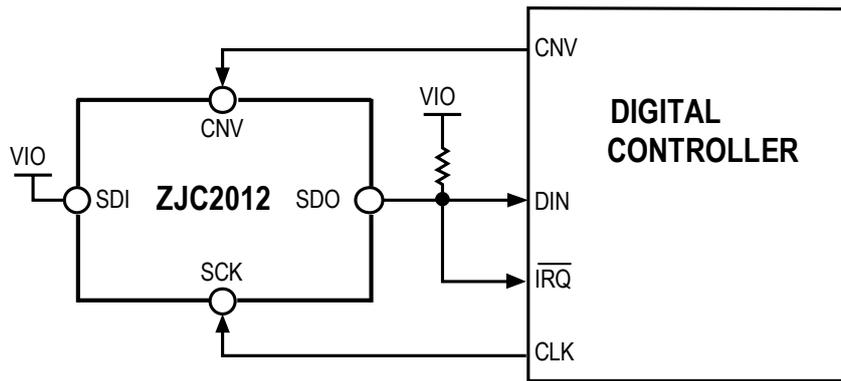
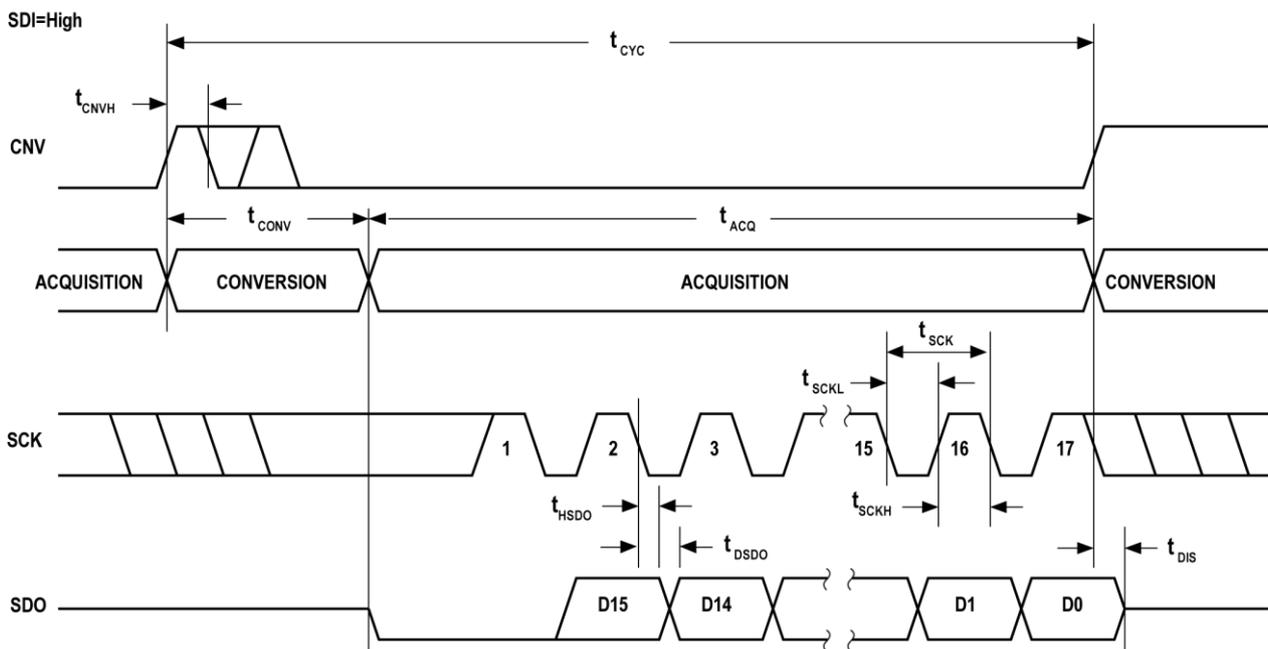
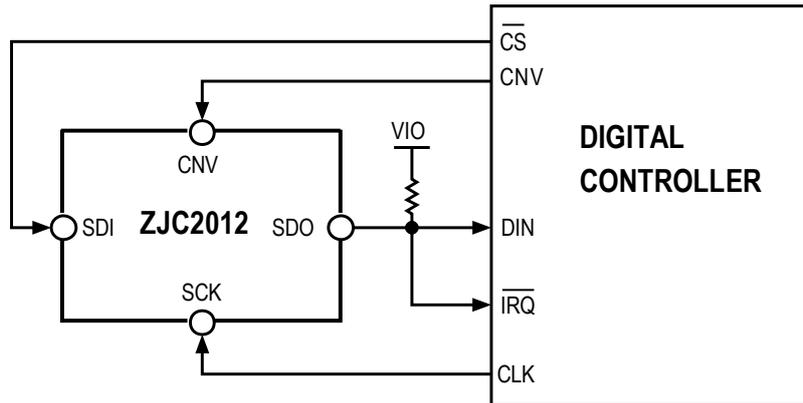
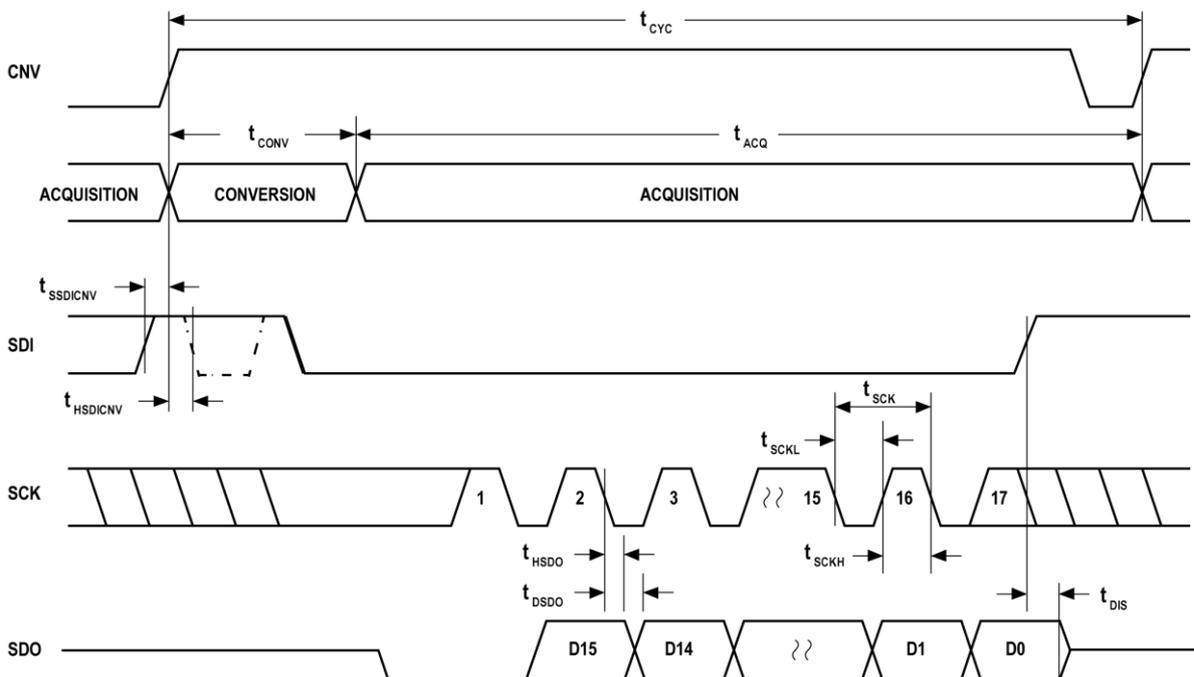

Figure 38. Chip Select Mode (three-wire type with busy indication) Connection Diagram
Figure 39. \overline{CS} Mode (3-Wire with Busy Indication) Serial Interface Timing
Figure 42. \overline{CS} Mode (4-Wire with Busy Indication) Connection Diagram
Figure 43. \overline{CS} Mode (4-wire with Busy Indication) Serial Interface Timing
- In \overline{CS} mode, CNV or SDI is low at the end of ADC conversion (see Figure 39 and Figure 43).
This mode can be used when a single ZJC2012 is connected to an SPI-compatible digital host with an interrupt input. The connections are shown in Figure 38 and the corresponding timing is shown in Figure 39.
The connection is shown in Figure 42 and the corresponding timing is shown in Figure 43.